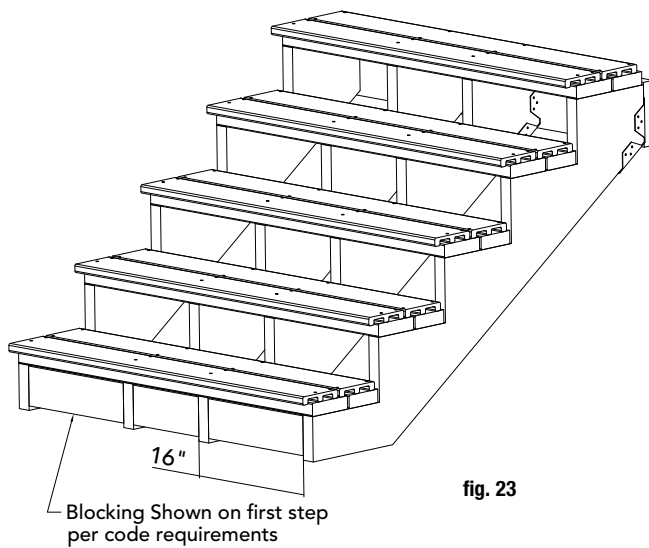
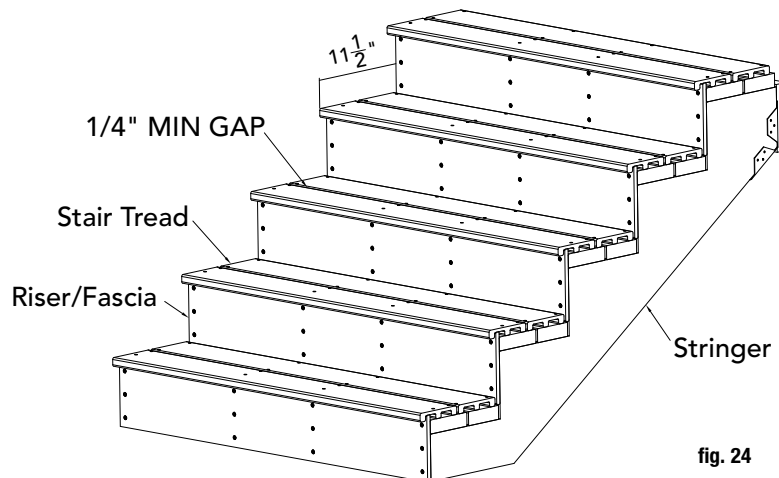

fig. 23
fig. 24
**Tread dimension WITH RISER (11.5" Fig 23 and Fig. 24)**